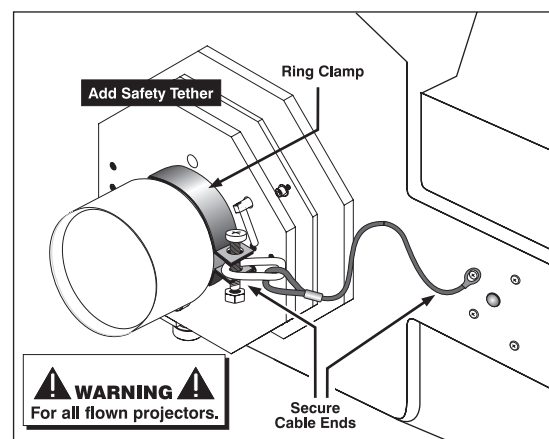

Figure 6 - Secure Lens with Ring Clamp and Tether
5. Install the projection lens and secure it with its safety ring and tether strap. (Figure 6.) See also the User Manual for more lens installation details.